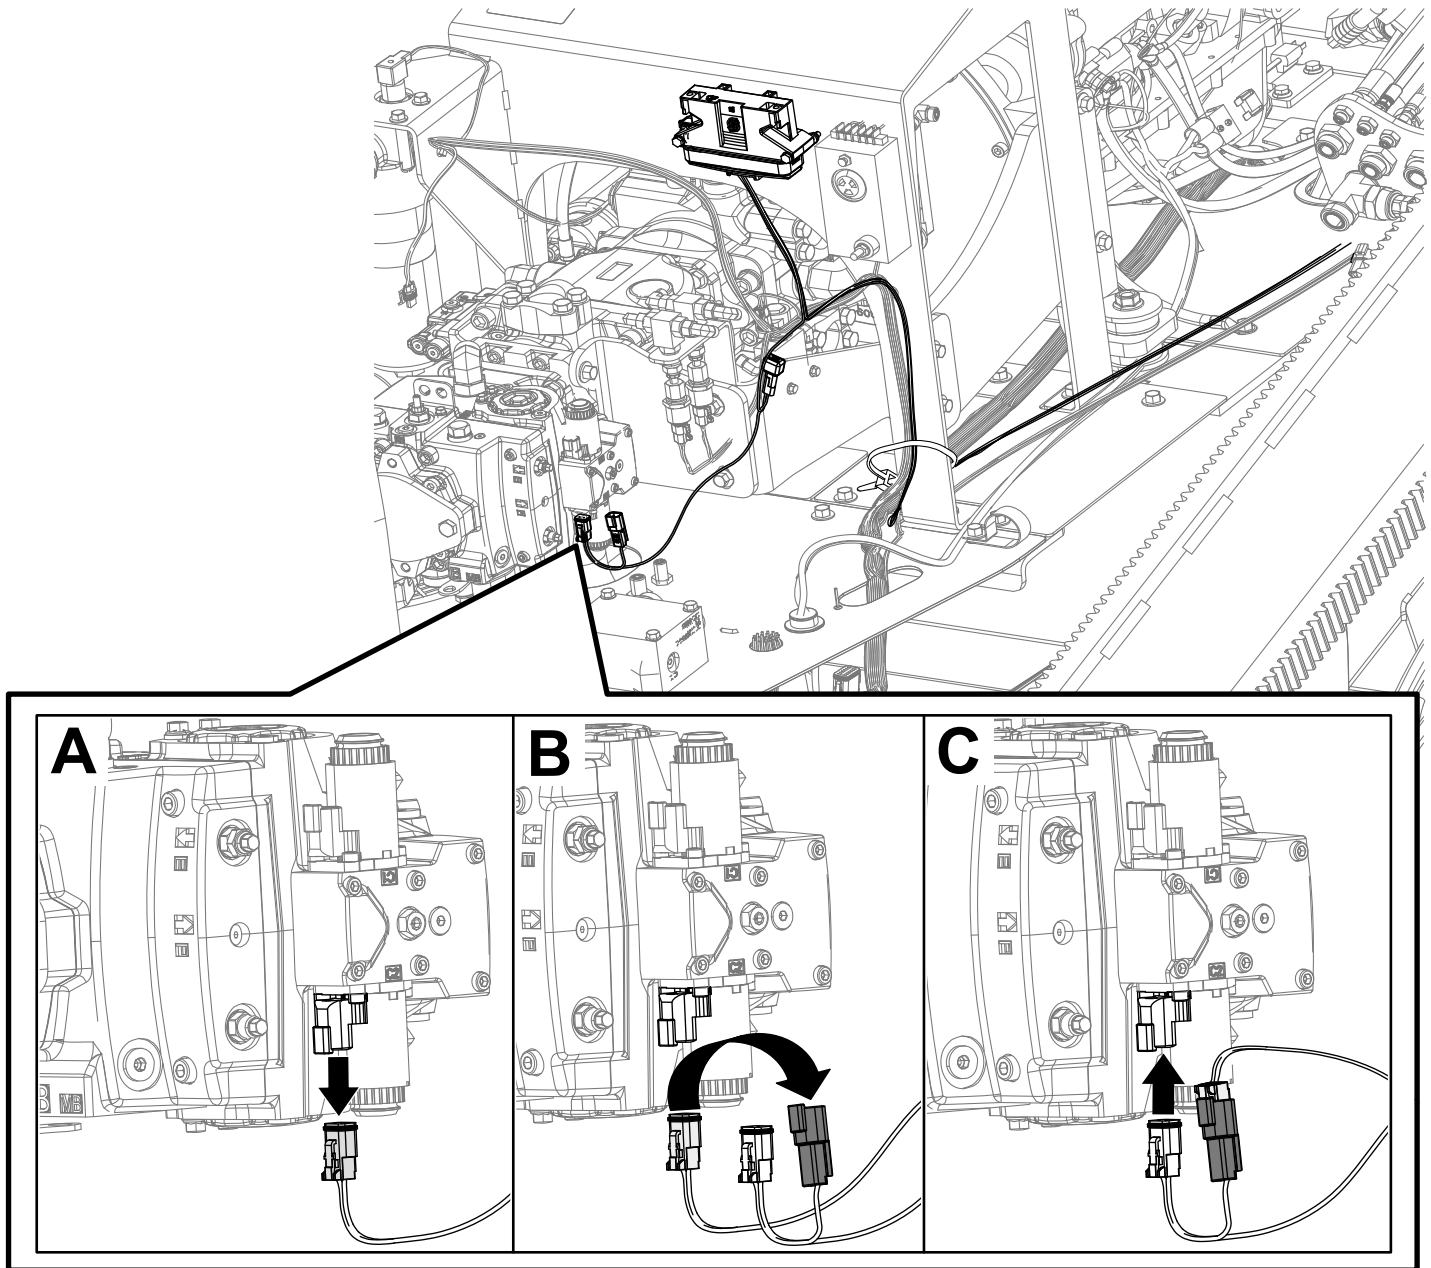

Figure 5
2. Remove the current wire harness from the hydrostat pump (Box A of Figure 5).
3. Plug the current wire harness into the new wire harness (Box B of Figure 5).
4. Install the new wire harness connector in the hydrostat pump (Box C of Figure 5).